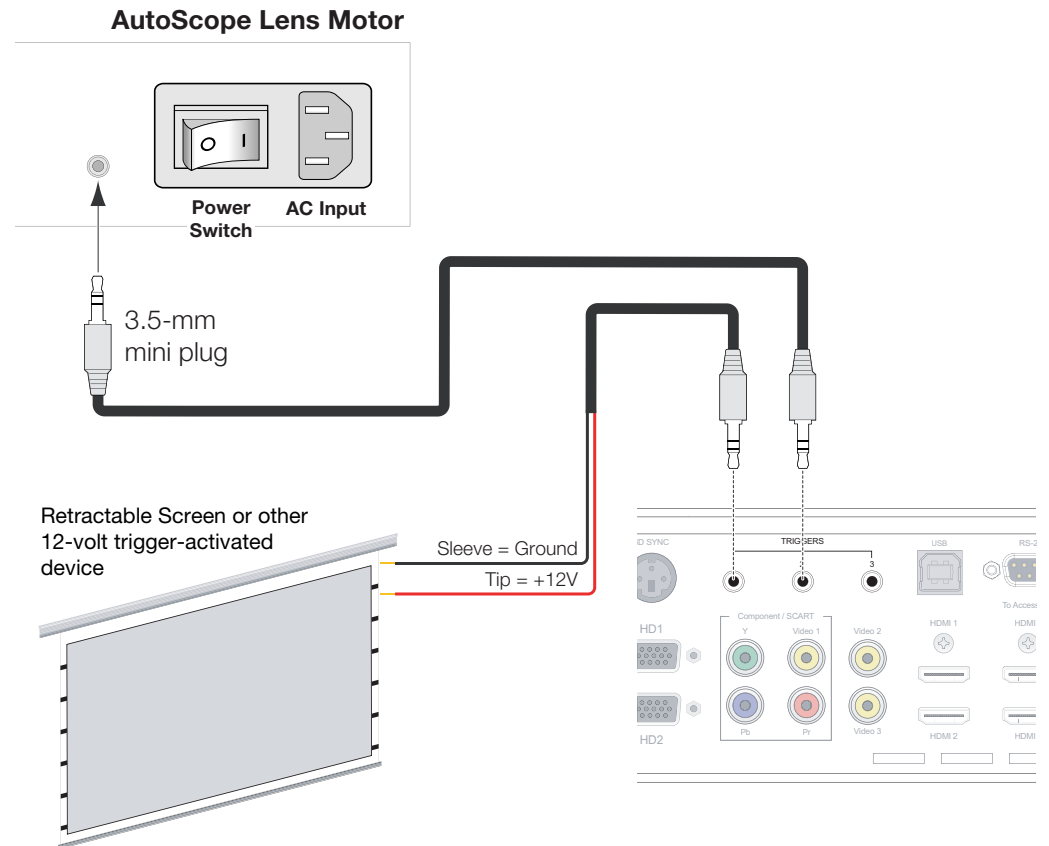

Figure 3-16. Connecting 12-volt Trigger Outputs
Connecting 12-volt Trigger Outputs to External Equipment: If your SC-30d/SC-35d is equipped with an anamorphic lens, connect the **+12V Trigger Input** on the lens transport to a 12-volt trigger output on the Dimension Digital Controller; see Figure 3-16.
2. If this is an AutoScope-equipped projector, turn on the main power switch at the rear of the AutoScope lens motor. The lens motor power switch is located next to the AC input (see Figure 3-16).